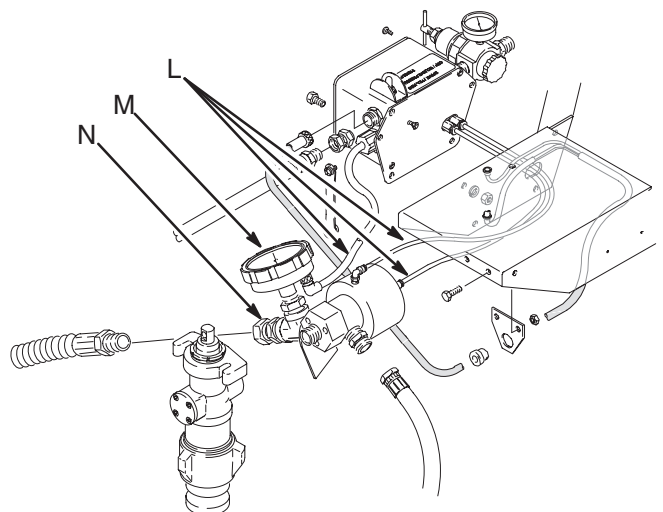

Fig 2
4. Disconnect the cables (L) as shown in Fig 2.
6. Use a screwdriver to pry the retaining ring up (C) from the back of the connecting link (D). Then push the pin in so it falls out the back.
7. Remove the two mounting screws (E) while supporting the weight of the pump with your free hand.
8. Unscrew the gauge (M) using a 1.062" wrench. See Fig 2.
9. Unscrew the pressure drain valve assembly (N) from the the pump.
6. Connect the cables (L) to the drain valve. See Fig 2.